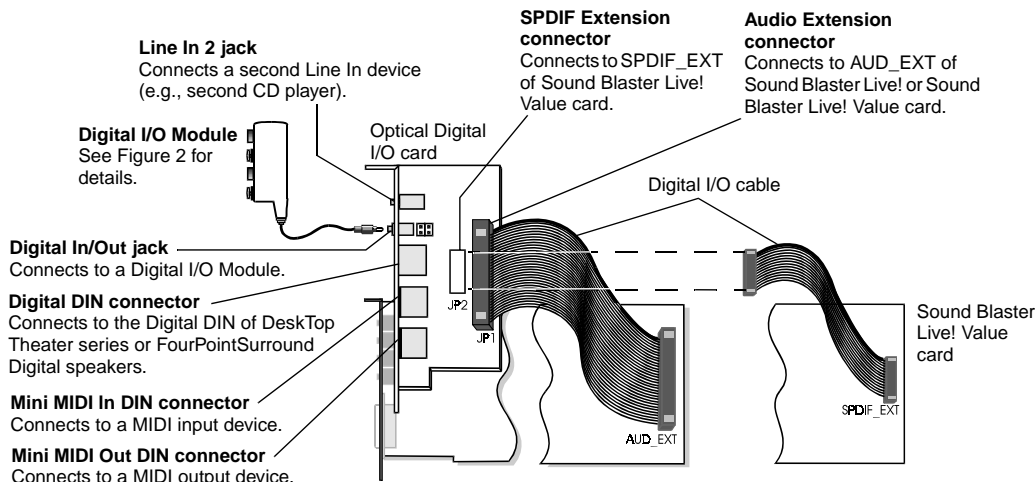

Figure 1: Connecting the Optical Digital I/O card.
5. Connect the Optical Digital I/O card to the Sound Blaster Live! or Sound Blaster Live! Value card using the digital I/O cable, as shown in Figure 1.